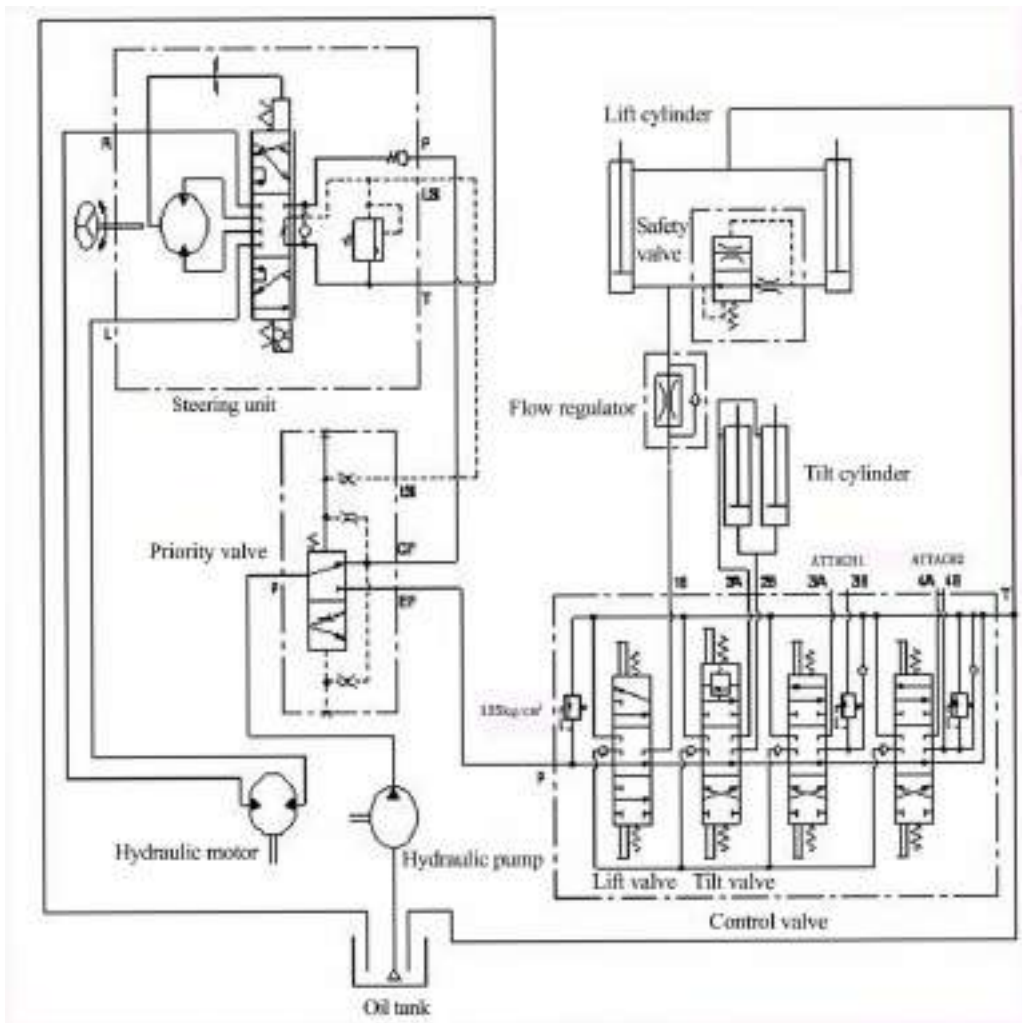

Fig.7-18 Hydraulic oil circuit
7.1.7 Hydraulic oil circuit (See Fig.7-18)